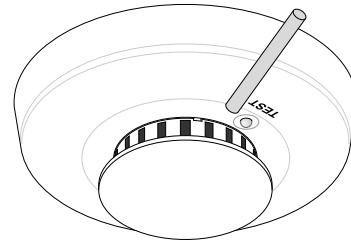

Figure 7. Testing the detector
1. Hold the test magnet up to the raised TEST letters on the top of the detector for 2 seconds. See Figure 7. Once the test starts, the alarm LED flashes one to nine times.